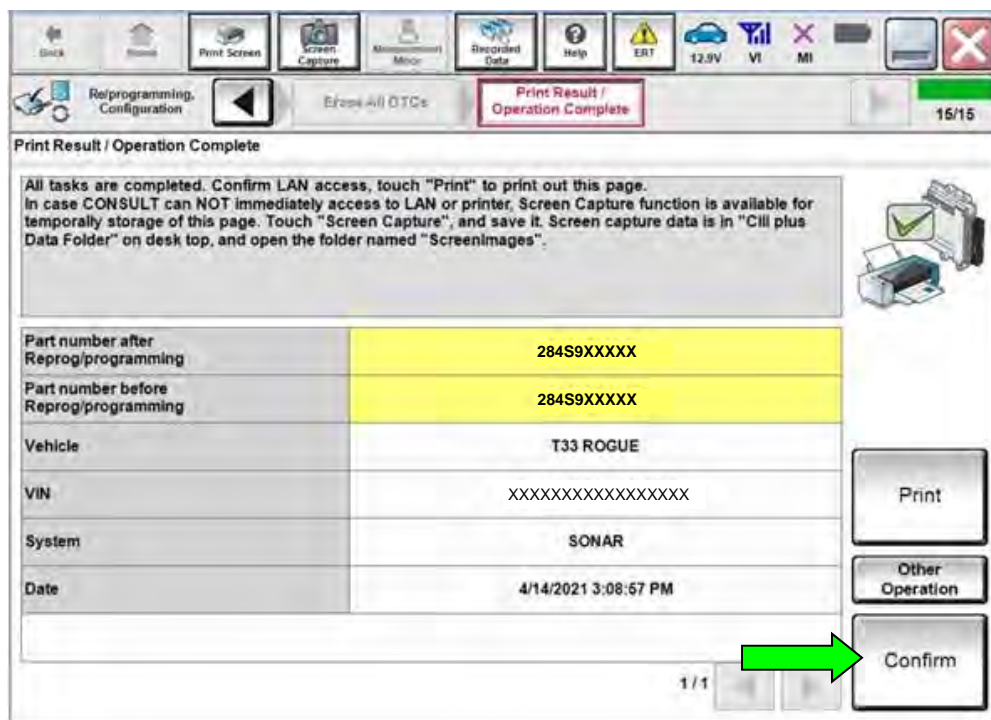

Figure 26
**HINT:** When the entire reprogramming process is complete, the screen in Figure 26 will display.
- 41. Print a copy of the screen below (Figure 26) and attach it to the repair order for warranty documentation.